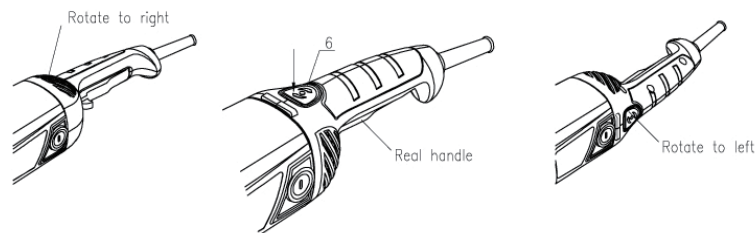

**Figure 8**
- 1) To rotate the rear handle press on the rotating release button (6) and move the handle to one of the present positions.
**Note:** The rear handle can be rotated to the left or right. It must be "Locked" into one of the three preset positions: central,  $90^{\circ}$  to the left or  $90^{\circ}$  to the right. It must not be used at any position in between these three preset positions as it might rotate during use and create a hazard. (Figure 8)